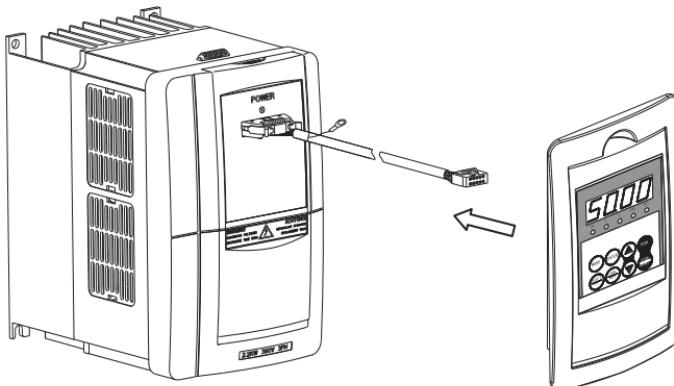

Fig. 3-11 Mounting Diagram for the operator panel and connecting wire of the inverter Model A
**Step 4.** Put the dismantled keypad into the installation frame ,Fix and fasten it. Put the other side cable insert into the keypad .(as shown in Figure 3-11).